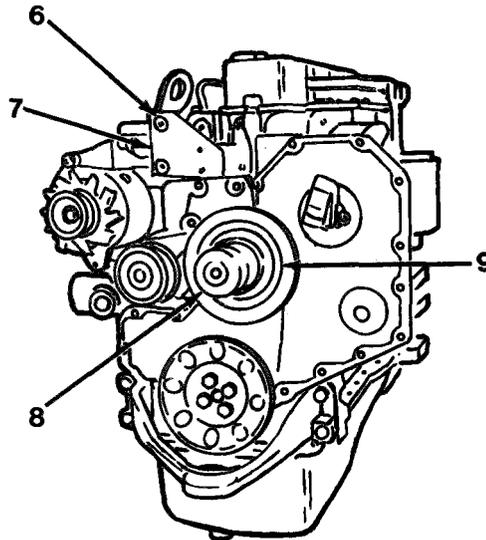

Figure 6-2
4. Install fan pulley (9) and spacer (8, Figure 6-2).
5. Install bracket (7) and two allen head cap-screws (6). Torque capscrews (6) to 18 lb ft (24 N•m).